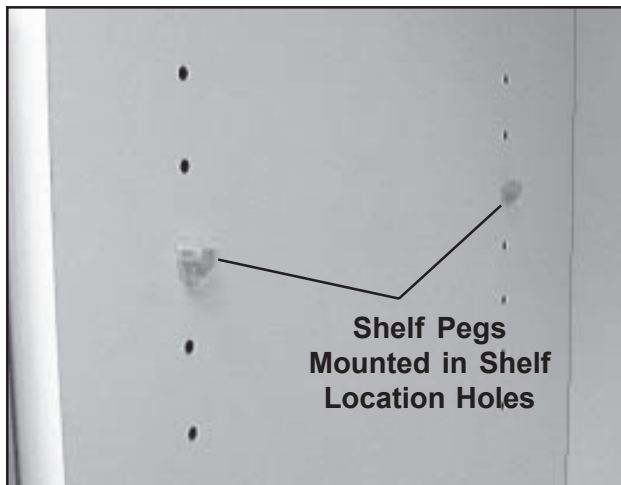

Figure 15. Shelf Pegs Mounted in Cupboard Wall
2. There are two vertical columns of nine holes in each side wall of the cupboard. Place the metal portion of one peg in a hole in each column so the shelf will be supported at four points (Figure 15). Leave the flat surface of the peg facing up. Make sure you install the pegs in the same hole in each column.